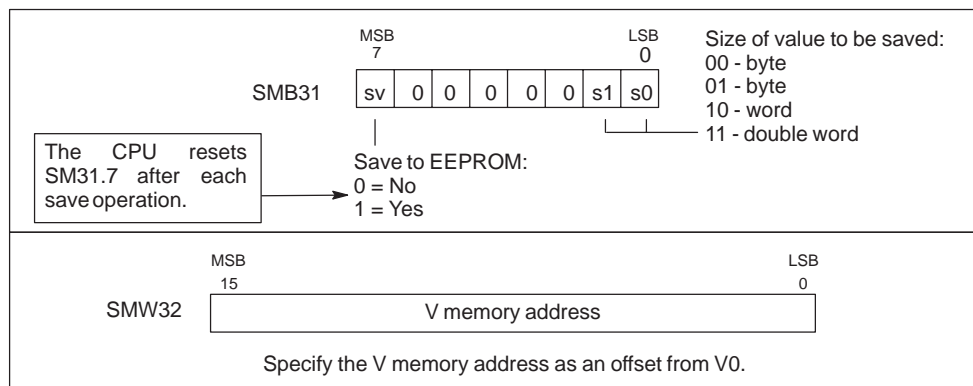

Figure 5-19 Format of SMB31 and SMW32
Special Memory Byte 31 (SMB31) and Special Memory Word 32 (SMW32) command the CPU to copy a value in V memory to the permanent V memory area of the EEPROM. Figure 5-19 shows the format of SMB31 and SMW32. Use the following steps to program the CPU to save or write a specific value in V memory:
2. Load the size of the data in SM31.0 and SM31.1. (See Figure 5-19.)